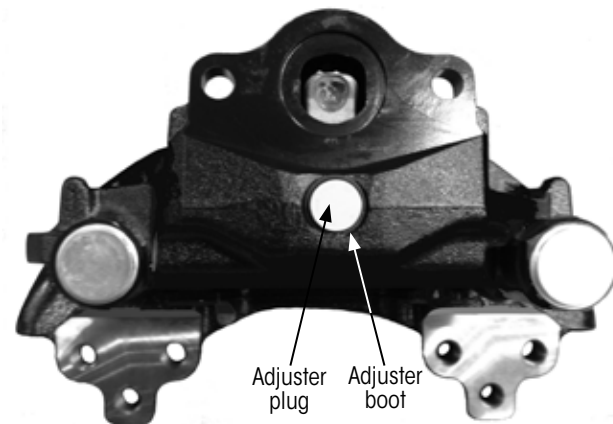

Figure 41: Inserting adjuster plug
13. **Push** a new adjuster plug into the adjuster boot (Figure 41). Ensure the plug is fully seated. Failure to do so will cause caliper to not function.